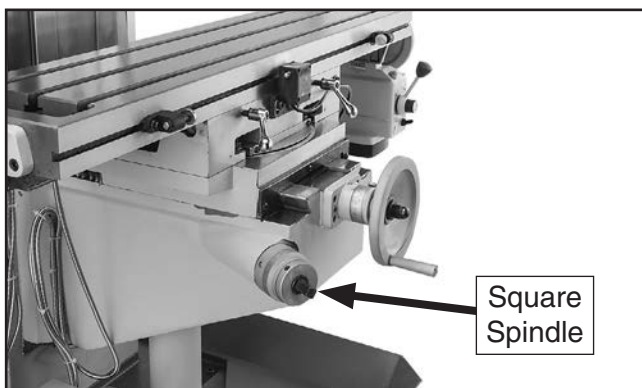

Figure 16. Location of square spindle.
2. Slide Z-axis crank onto square spindle (see **Figure 16**).